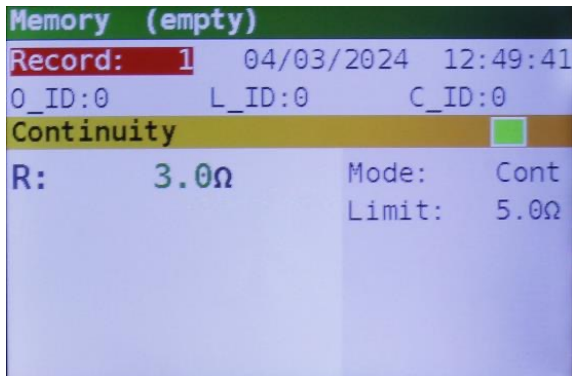

Figure 8.4: Save results
Step 2 Press the **MEM** key. The following is displayed (Figure 8.4):
When a measurement was made, a screen as in figure 8.4 is shown. Press the UP ▲ or DOWN ▼ key to enter the record list.
When a measurement was made, a screen as in figure 8.4 is shown. Press then the UP ▲ or DOWN ▼ key to enter the record list.